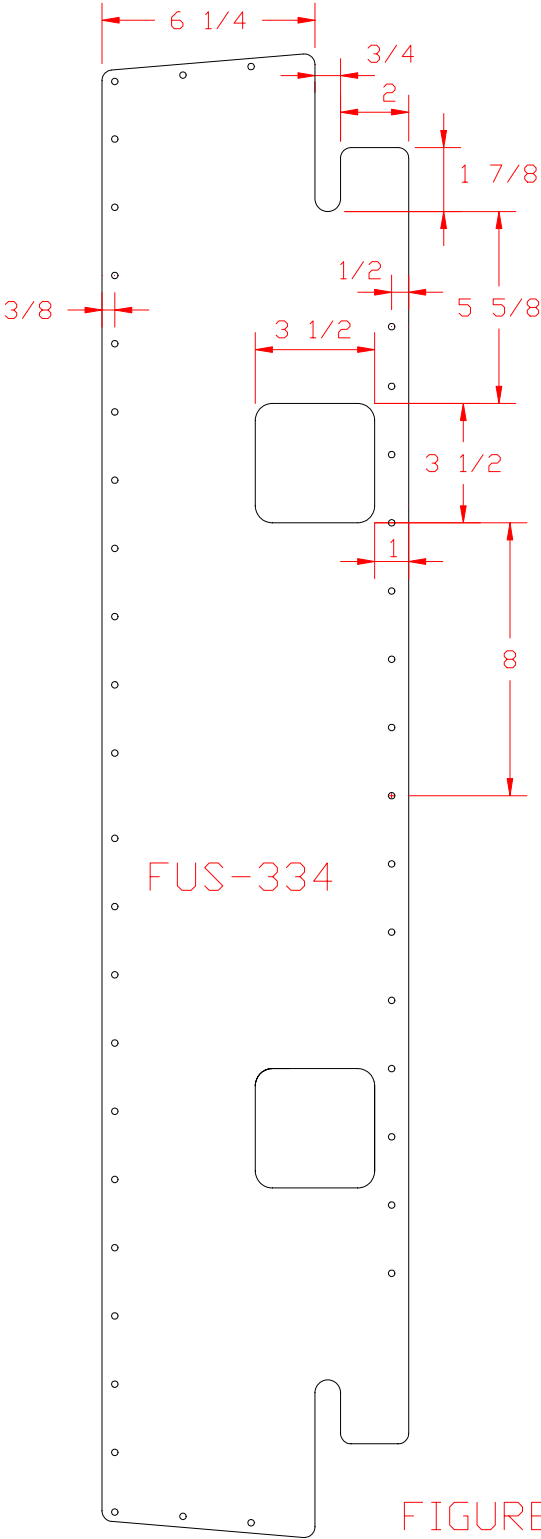

FIGURE 16
- 28) Using Figure 16 as a guide fabricate the FUS-334 Floor Panel. **NOTE:** The measurements given in Figure 16